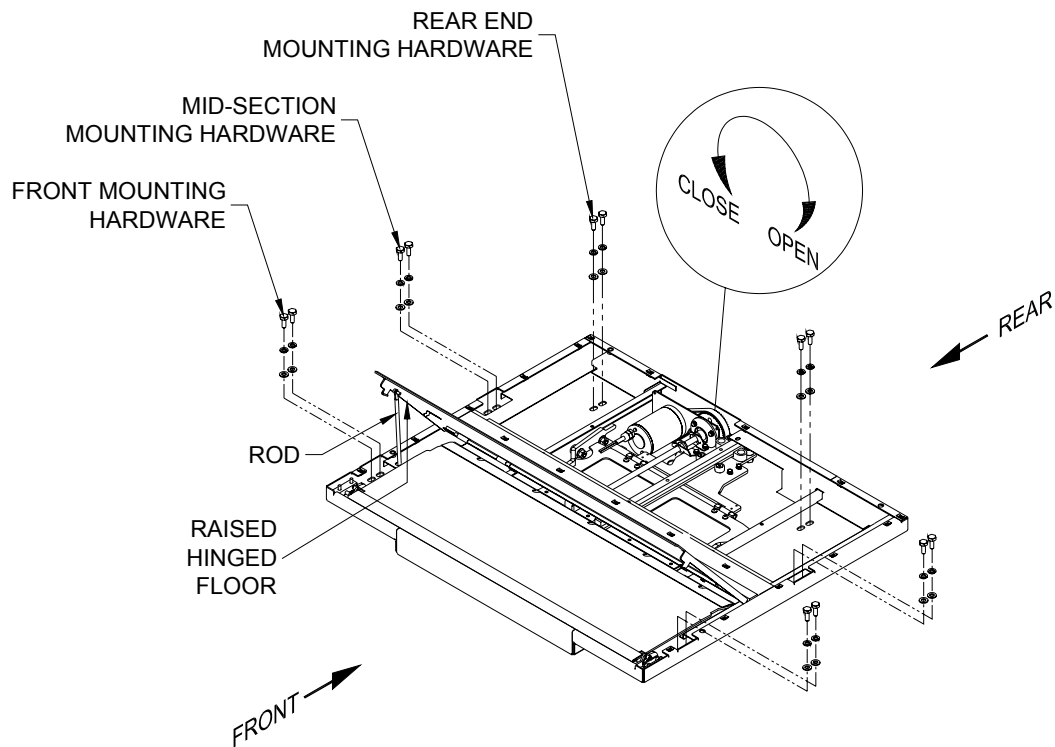

FIGURE 2-3: INSTALLING MOUNTING FASTENERS
- f. Refer to **Figure 2-3**. Rotate timing belt approximately 25-30 times in the direction shown in **Figure 2-3** until the tip of the ramp appears approximately 50mm out of the enclosure.
- g. Refer to **Figure 2-3**. Use rod found under hinged floor to support and lock hinged floor in a raised position.
- i. Refer to **Figure 2-3**. Install 4 flat washers, spring washers and mounting bolts at rear end, two on each side.
- j. Refer to **Figure 2-3**. Install 4 flat washers, spring washers and mounting bolts at mid section, two on each side.
- k. Refer to **Figure 2-3**. Install 4 flat washers, spring washers and mounting bolts at front, two on each side.